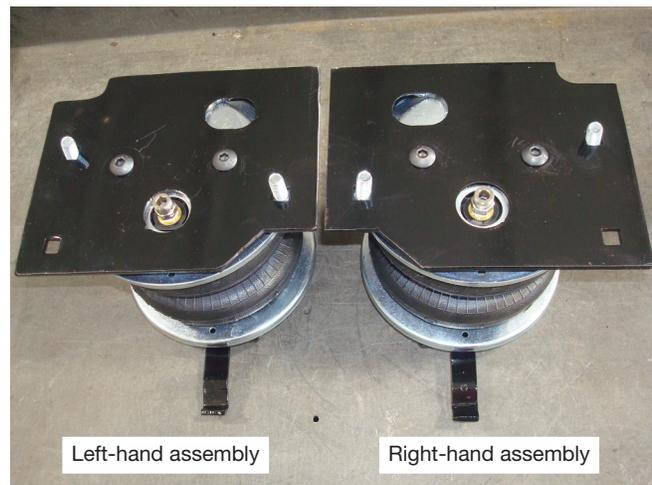

Fig. 23
4. Figure 23 shows left- and right-hand assemblies.